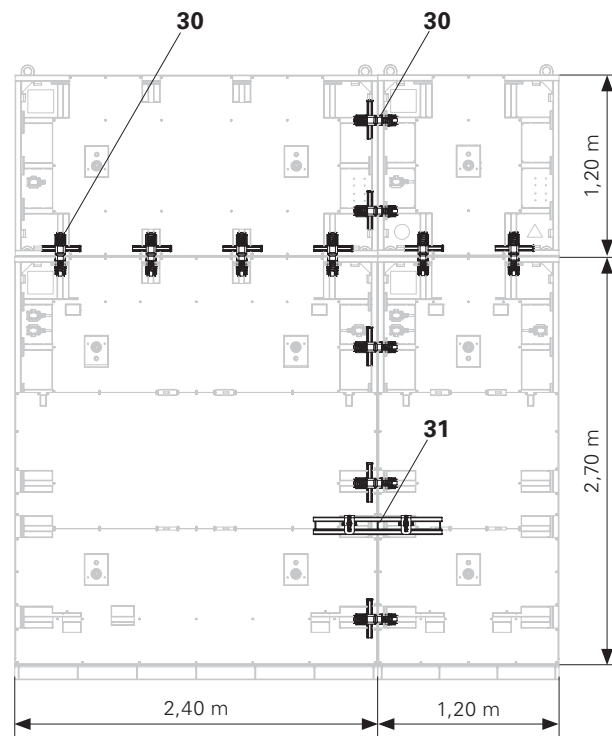

Fig. B1.12
3. Connect the Heated Formwork Panels to the designated frame struts using the Alignment Couplers BFD (30) and Compensation Walers MAR 85 (31). (Fig. B1.12 + B1.13)